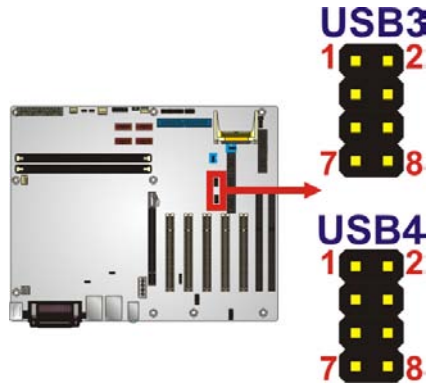

Figure 3-19: USB Connector Pinout Locations
- CN Location: See **Figure 3-19**